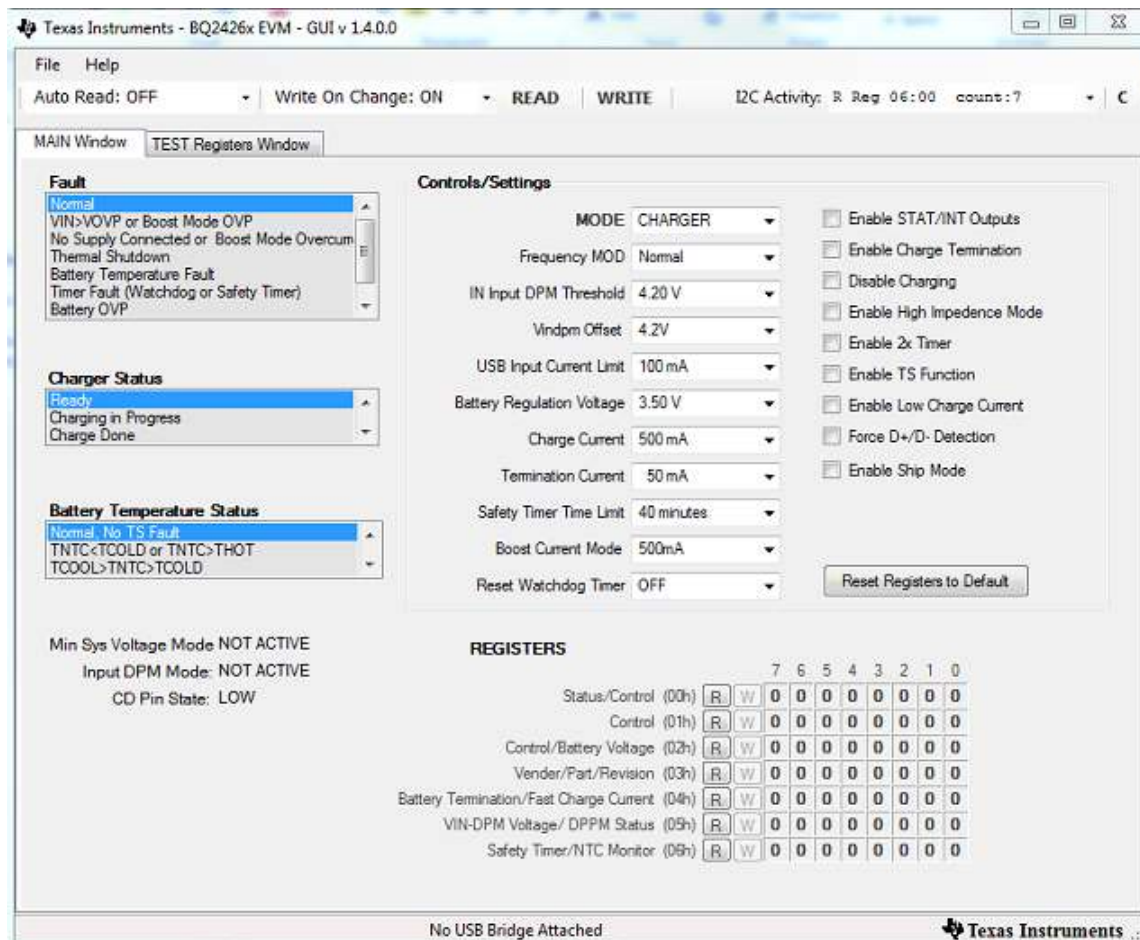

Figure 5. Main Window of the bq2426xSW Evaluation Software
- Turn on the computer. Open the bq2426x evaluation software. The main window of the software is shown in Figure 5.